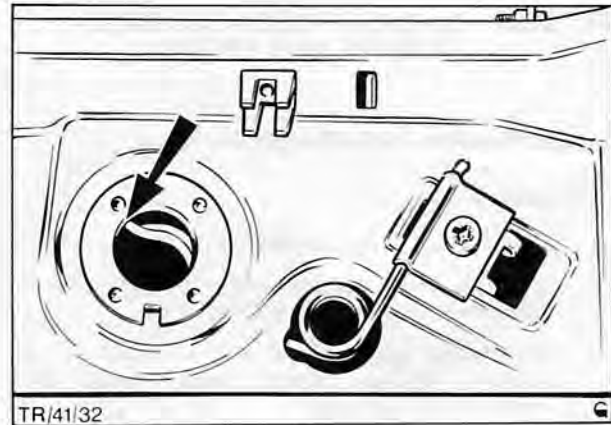

Fig. 4. Hood release spring adjustment: spring edge (arrowed) in contact with front face of sleeve
2. Pull cable until edge of hood lock spring contacts front face of hood lock sleeve, Fig. 4.